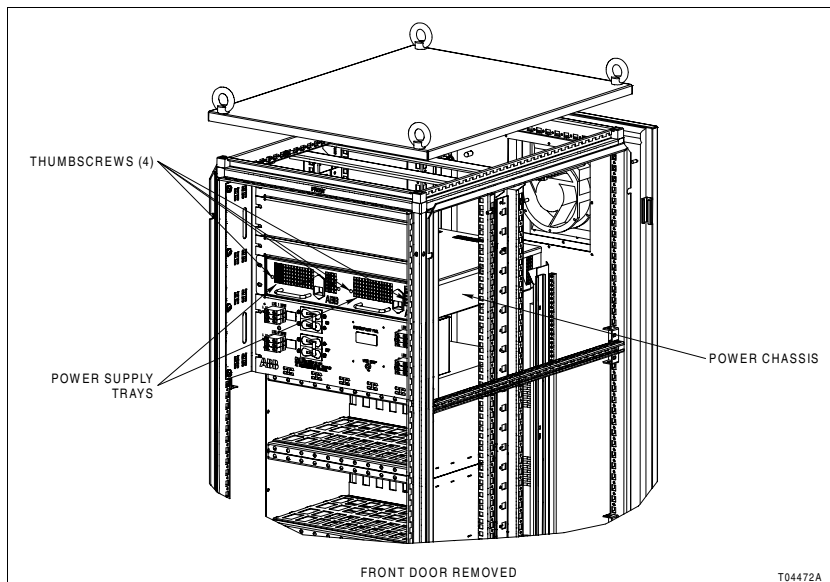

Figure PR5-1. Power Supply Tray Installation
- 4. Turn the two thumbscrews (Figure PR5-1) clockwise to secure the power supply tray to the power chassis.
NOTE: Figure PR5-1 shows a single power chassis configuration. In dual power chassis configurations the top power chassis takes the place of the large filler panel.